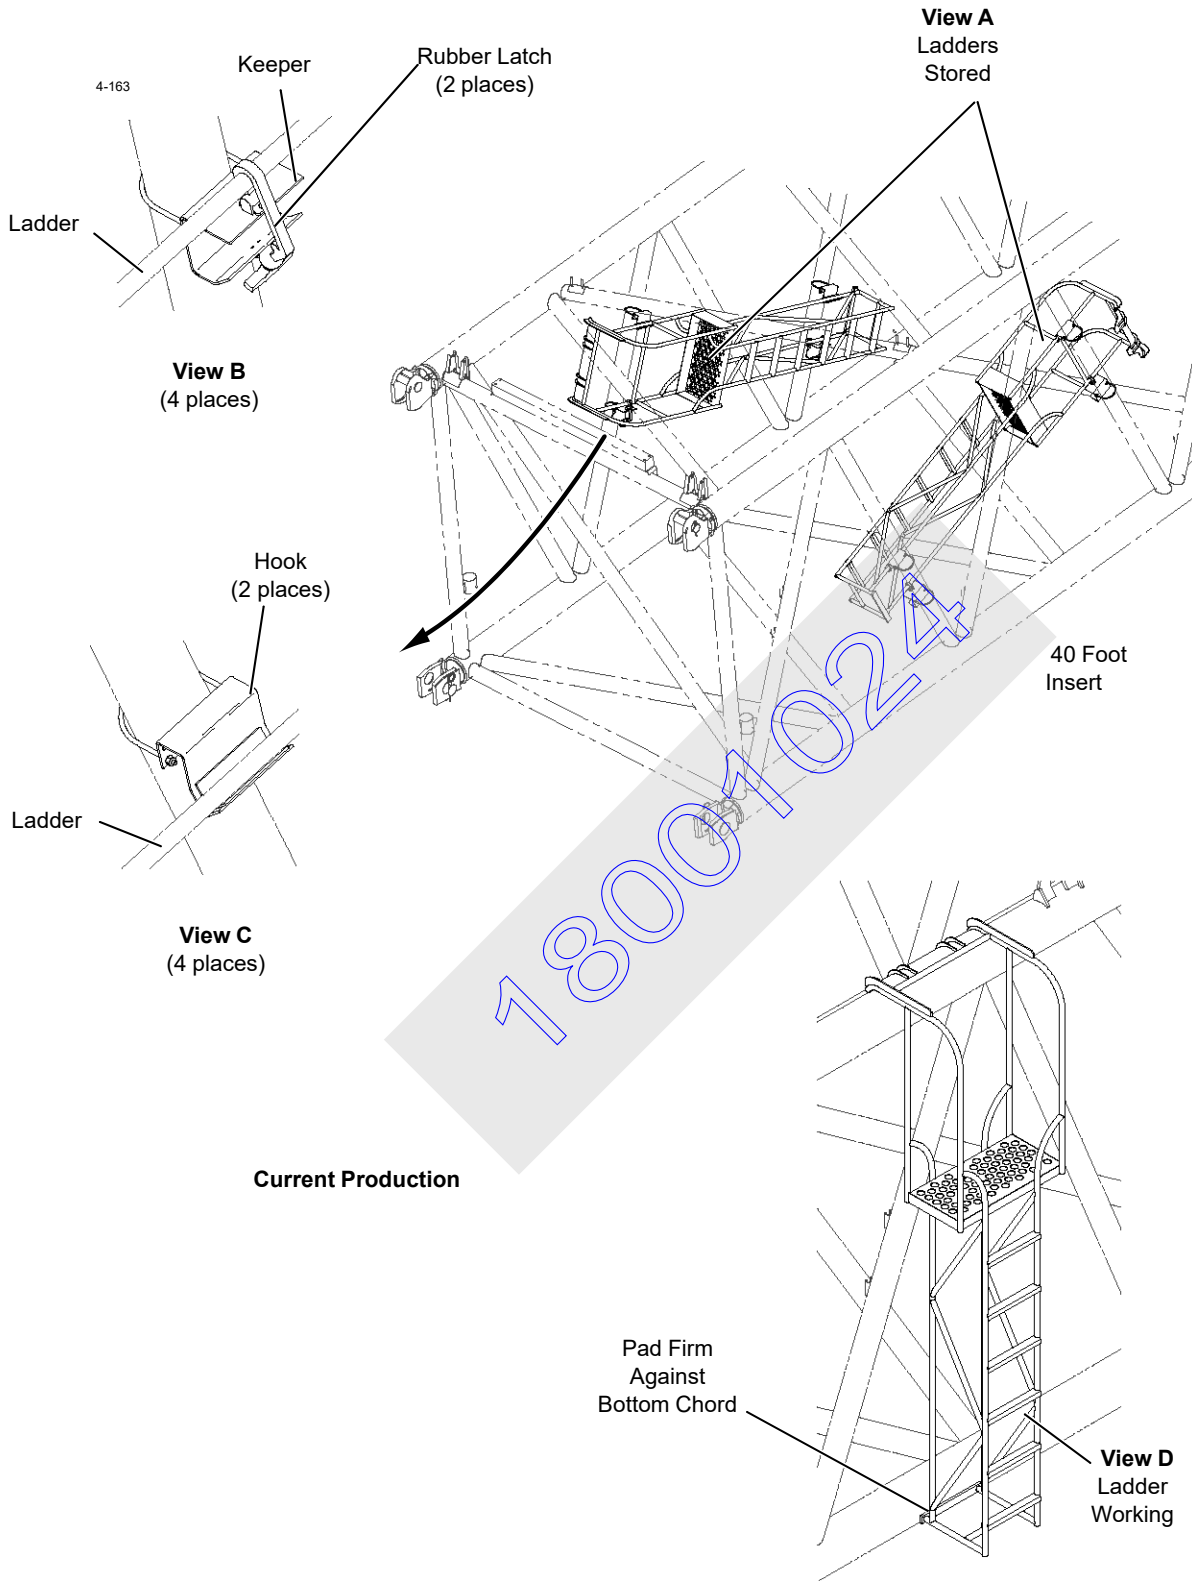

FIGURE 4-39
- Past Production, inside the boom butt as shown in (Figure 4-39, View A)